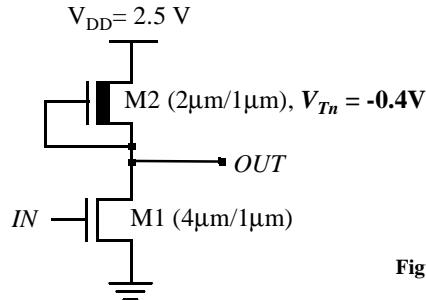

Figure 5.5 A depletion load NMOS inverter
7. Consider the circuit in Figure 5.5. Device M1 is a standard NMOS device. Device M2 has all the same properties as M1, except that its device threshold voltage is *negative* and has a value of -0.4V. Assume that all the current equations and inequality equations (to determine the mode of operation) for the depletion device M2 are the same as a regular NMOS. Assume that the input IN has a 0V to 2.5V swing.